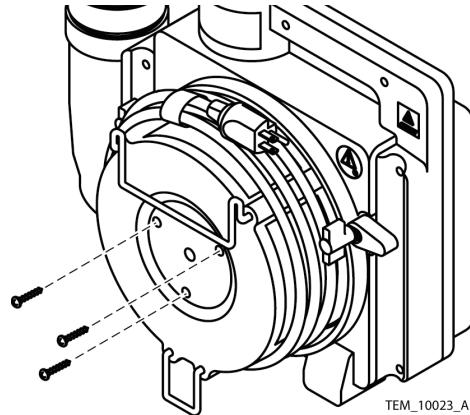

Figure 60. Filter Cover Screws
3. Remove the filter cover screws from the warming system. See Figure 60.